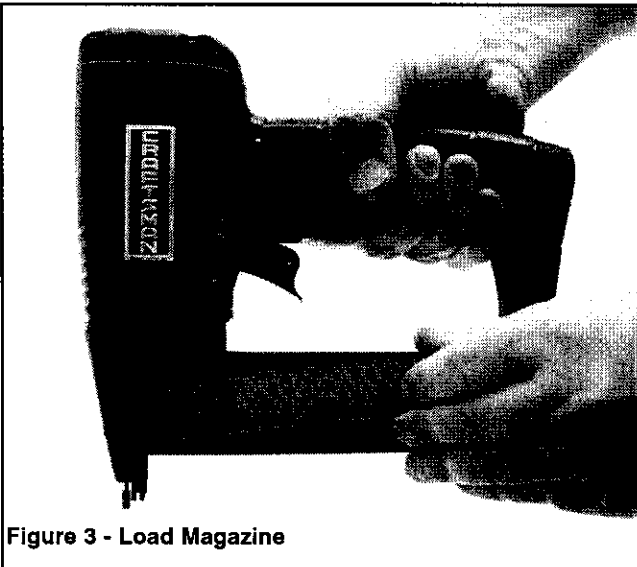

Figure 3 - Load Magazine
- Insert fasteners into magazine. Position fasteners at bottom of magazine with head towards top of tool (see Figure 3).